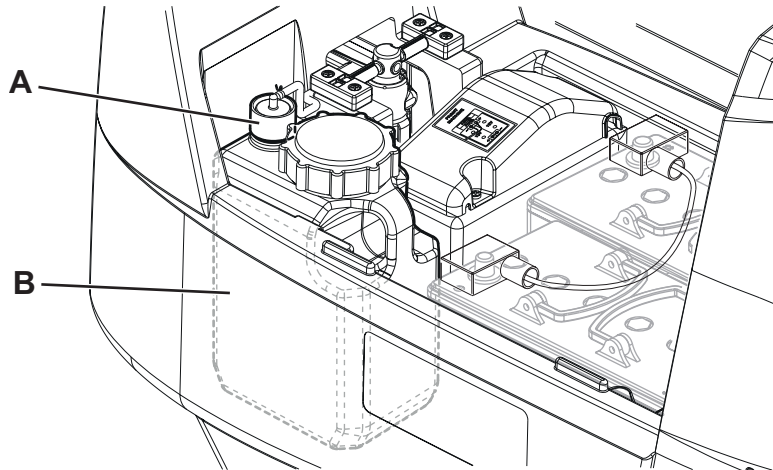

Figure 15
2. Ensure that the machine is off and the user key (51) has been removed.
3. Lift the cover (34) and check that the recovery tank (33) is empty; if not, empty it using the drain hose (12).
4. Close the cover (19).
5. Grasp the handle (16) and carefully lift the tank (33).
6. Unscrew the cap (A, Fig. 15) from the detergent tank (B).
9. Replace the detergent tank (B) as shown in the figure, then refit the plug (A).